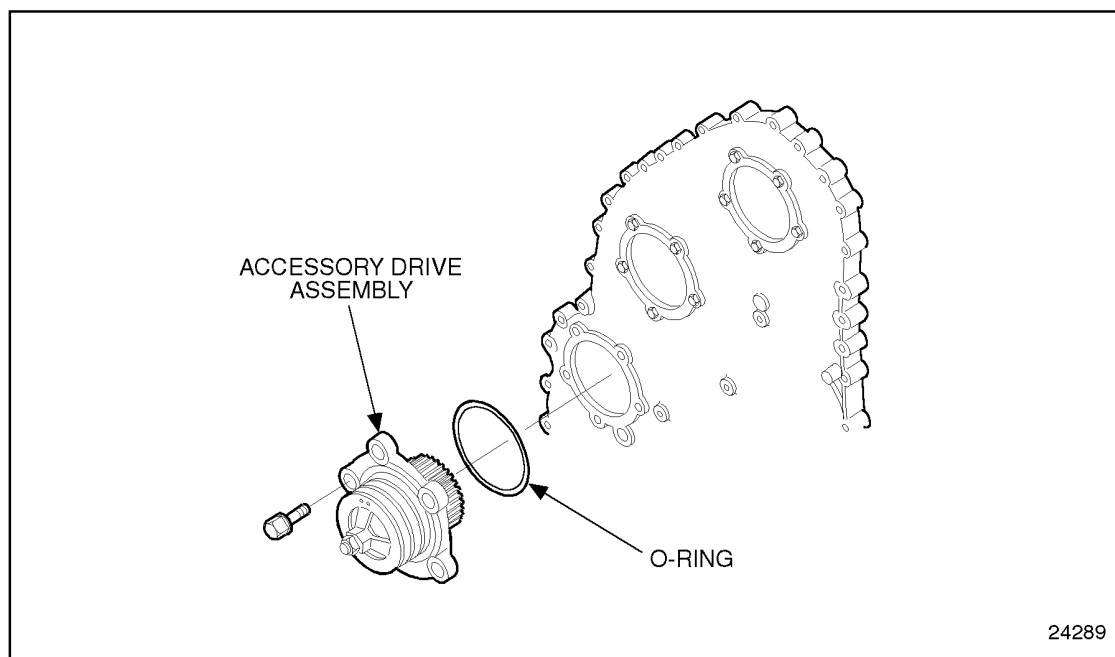

Figure 1-387 Accessory Drive Assembly Removal
3. Remove the accessory drive assembly by pulling it straight out of the gear case cover to avoid damaging the rubber O-ring. See Figure 1-387.